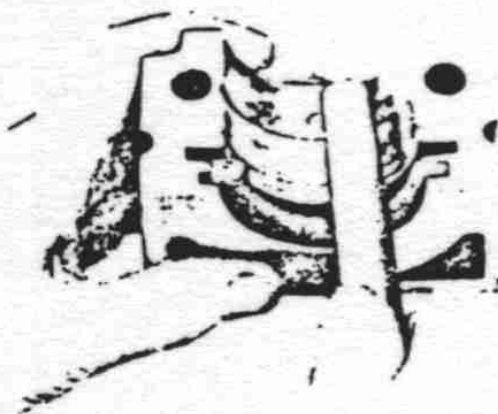

FIG. 26 REAR MAIN BEARING PACKING
a. *Description.*—The crankshaft rotates in three steel-backed babbitt-lined bearings, the front bearing taking the thrust. Packing at the rear bearing, (Fig. 26), prevents the escape of oil. The main bearing journal diameter and length dimensions are: Front, 2.3340"—1.920"; Center, 2.3340"—1.8125"; Rear, 2.3340"—1.75".
(1) The steel-backed babbitt-lined bearings are made to size and are interchangeable without line reaming. The running tolerance of the bearing is established at .001" to .0025". No adjustment is
(1) The rear main bearing is sealed by a wick type packing, installed in grooves machined in the crankcase and rear main bearing cap, (Fig. 26).
(2) To install a new seal at the rear main bearing cap, insert the packing in the groove with the fingers. Then using a round piece of wood or steel, roll the packing into the groove. When rolling the packing, start at one end and roll the packing to the center of the groove. Then starting from the other